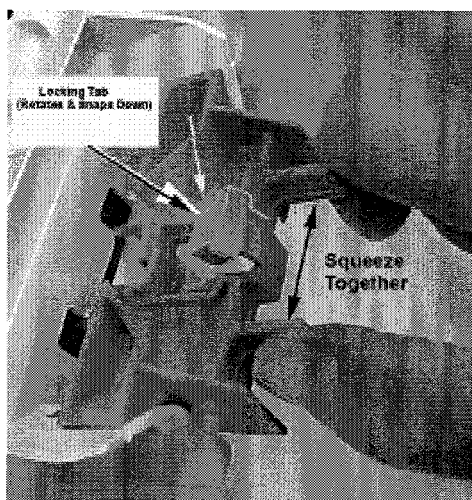

Figure 2
- The door locking mechanism was changed from a wax motor to a solenoid, resulting in faster locking and unlocking of the door. However, a wax motor is installed in the door lock mechanism for the sole purpose of unlocking the door in the event of a power failure. **Figure 2**
3. Locate the locking tab on the door latch hoop and pry the tab up. **Figure 2**